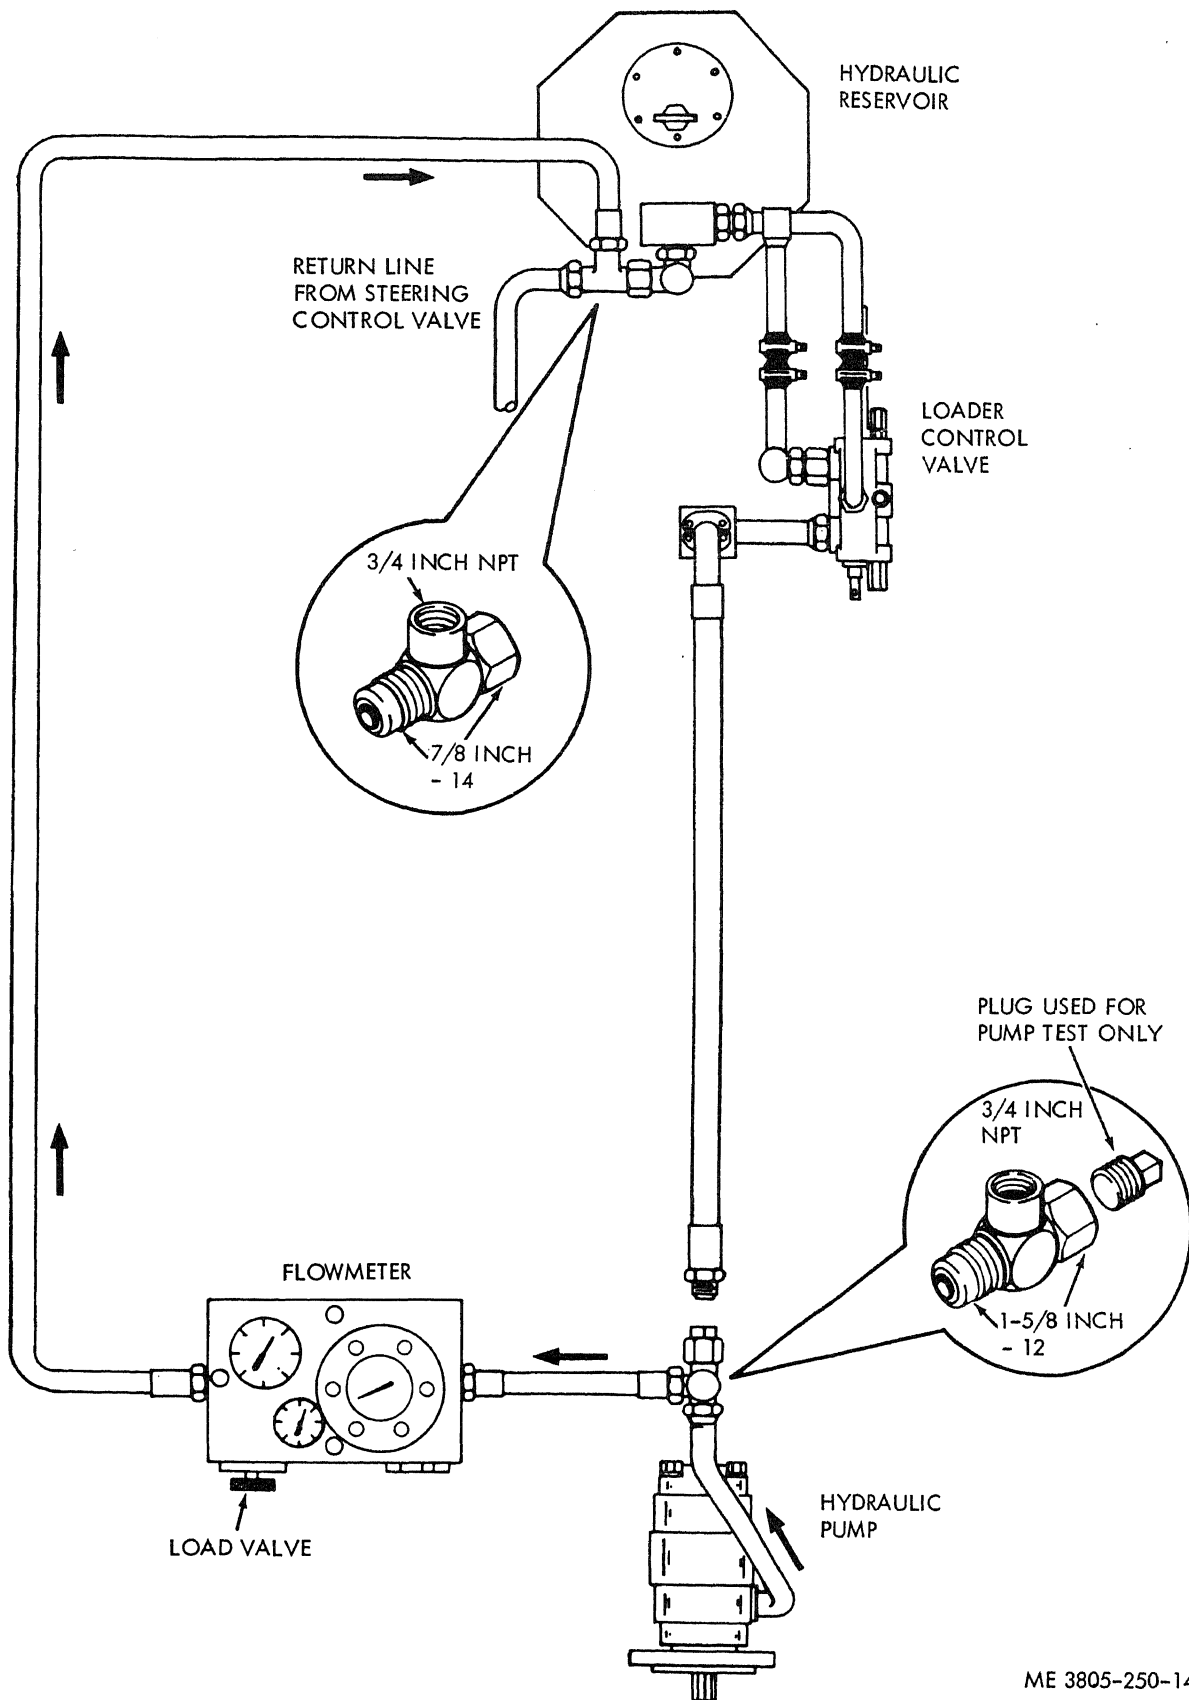

Figure 8-9. Hydraulic section test setup.
(1) Connect a H560-3 (M20270) flowmeter into the hydraulic system as follows. Refer to figure 8-9.
(b) Plug one end of the 1½ — 12 inch tee fitting and install as shown in figure 8-9.
(1) Connect the flowmeter as shown in figure 8-9. Do not plug the $1\frac{1}{8}$ -12 inch tee.
(2) Check the oil temperature. If necessary, run the engine to heat the oil to 125° F.
(3) Test the pressure setting of the loader main relief valve as follows: